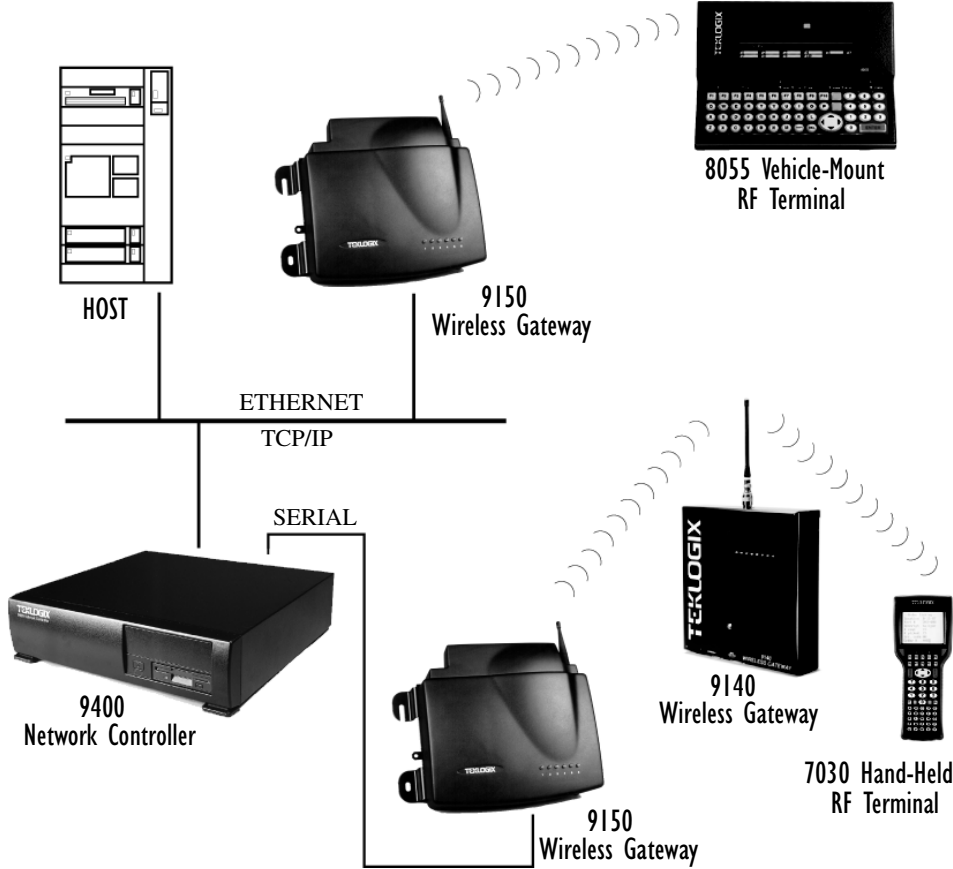

Figure 1.3 9150 LAN And Serial Configuration
**Note:** For detailed information on configuring the 9150 as a base station, please see Chapter 4: “Base Station Configuration”. For a generalized system diagram, see Figure 1.3, below.